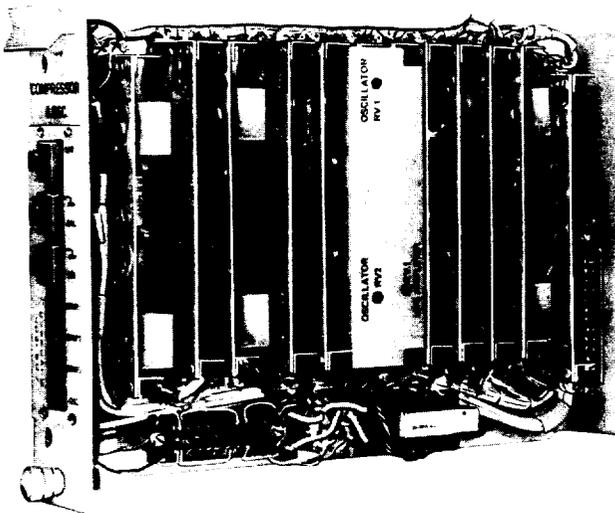

Fig. 2—Compressor and Oscillator Module
- 1 Remove the CHAN I/P link (TP1 and TP2) on the COMPRESSOR & OSC module (Fig. 2) and inject a 1000-Hz signal at a level of $-16 + X$ dBm into TP2 (X is the setting of attenuator AT1).